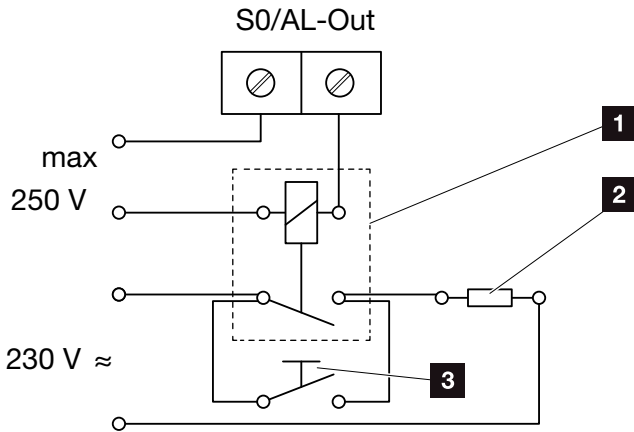

Fig. 64: Electrical connection for self-consumption
1. Properly connect the external load relay to the terminal S0/AL-Out.  **Fig. 64**